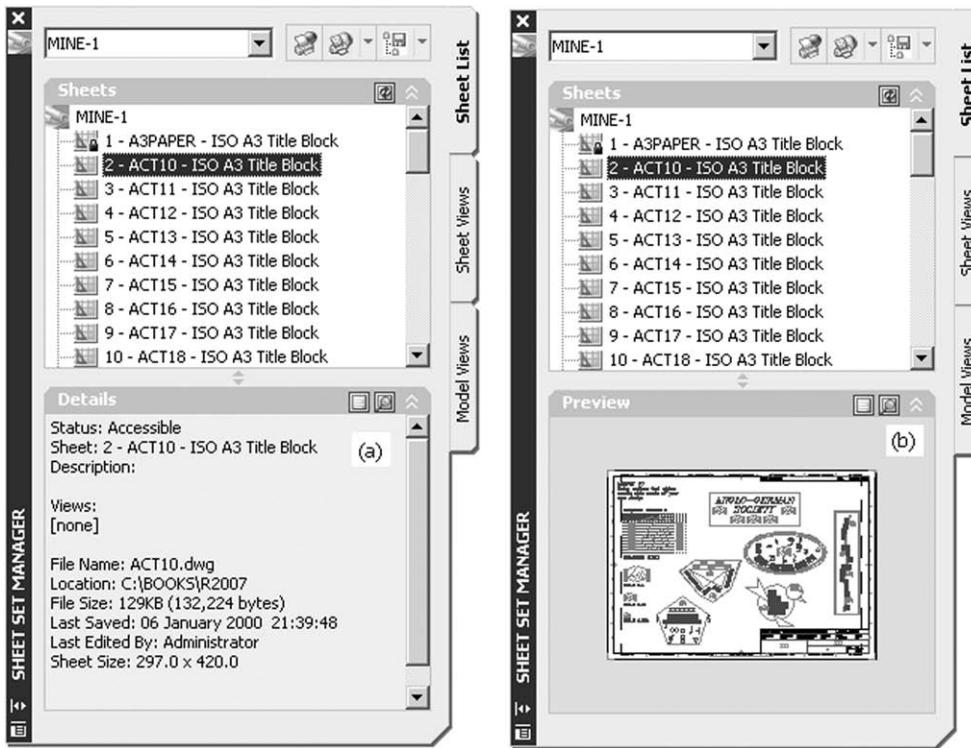

Figure 34.9 The sheet set manager palette for the activity layout drawings in MINE-1 with: (a) details active and (b) preview active.
a) obtain details of a selected file – Figure 34.9(a)
b) display a preview of the file – Figure 34.9(b)